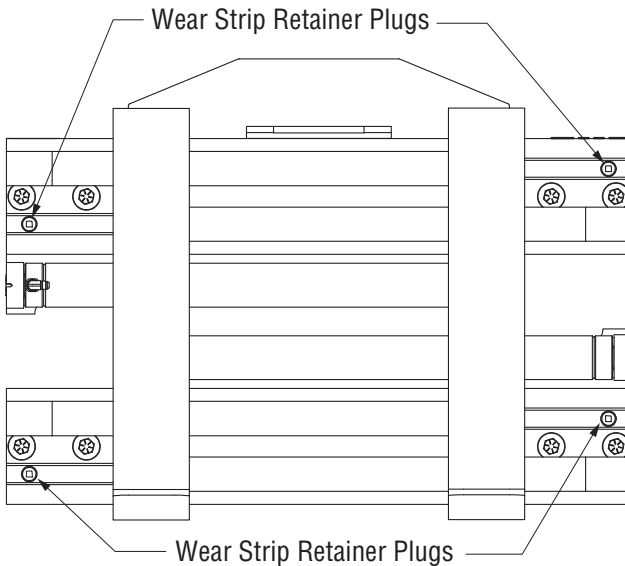

Figure 5-13, Arms Closed
1. Position the arms to the closed position. Turn off the truck's power. (Figure 5-13)